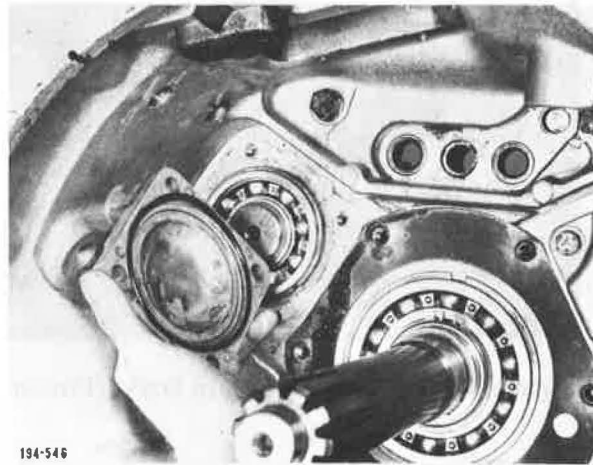

Figure 5-950. Installing Cover
11. Install front countershaft front bearing covers. See Figure 5-950.